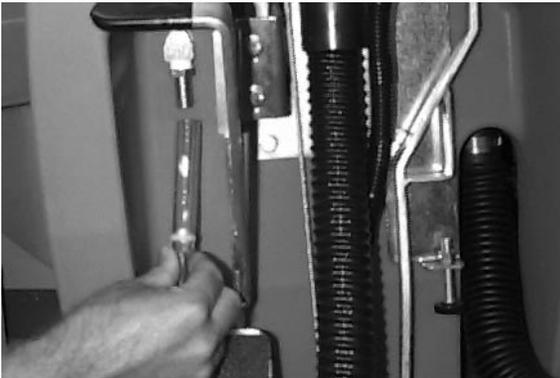

FIG. 19
1. Pull clear tube off hose barb at rear of machine and drain solution into floor drain or bucket (Figure 19).